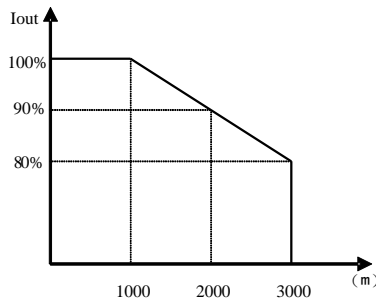

Fig 1-9 Derating drive's output current with altitude
- Derating must be considered when the drive is installed at high altitude, greater than 1000m. This is because the cooling effect of drive is deteriorated due to the thin air, as shown in Fig. 1-9 that indicates the relationship between the elevation and rated current of the drive.